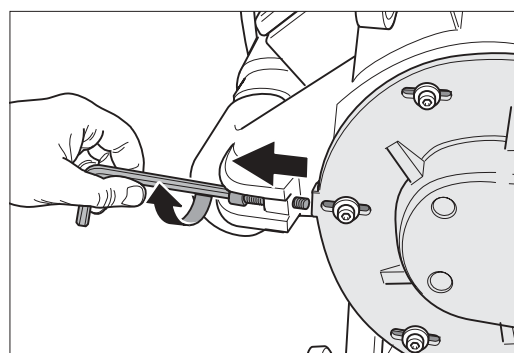

Fig. 56: Unscrew the belt-tensioning screw all the way back.
- 4 To relieve the V-belt tension, use the proper Allen key to unscrew the belt-tensioning screw all the way out until this screw disappears on the front side in the threaded hole of the fan housing (Fig. 56).